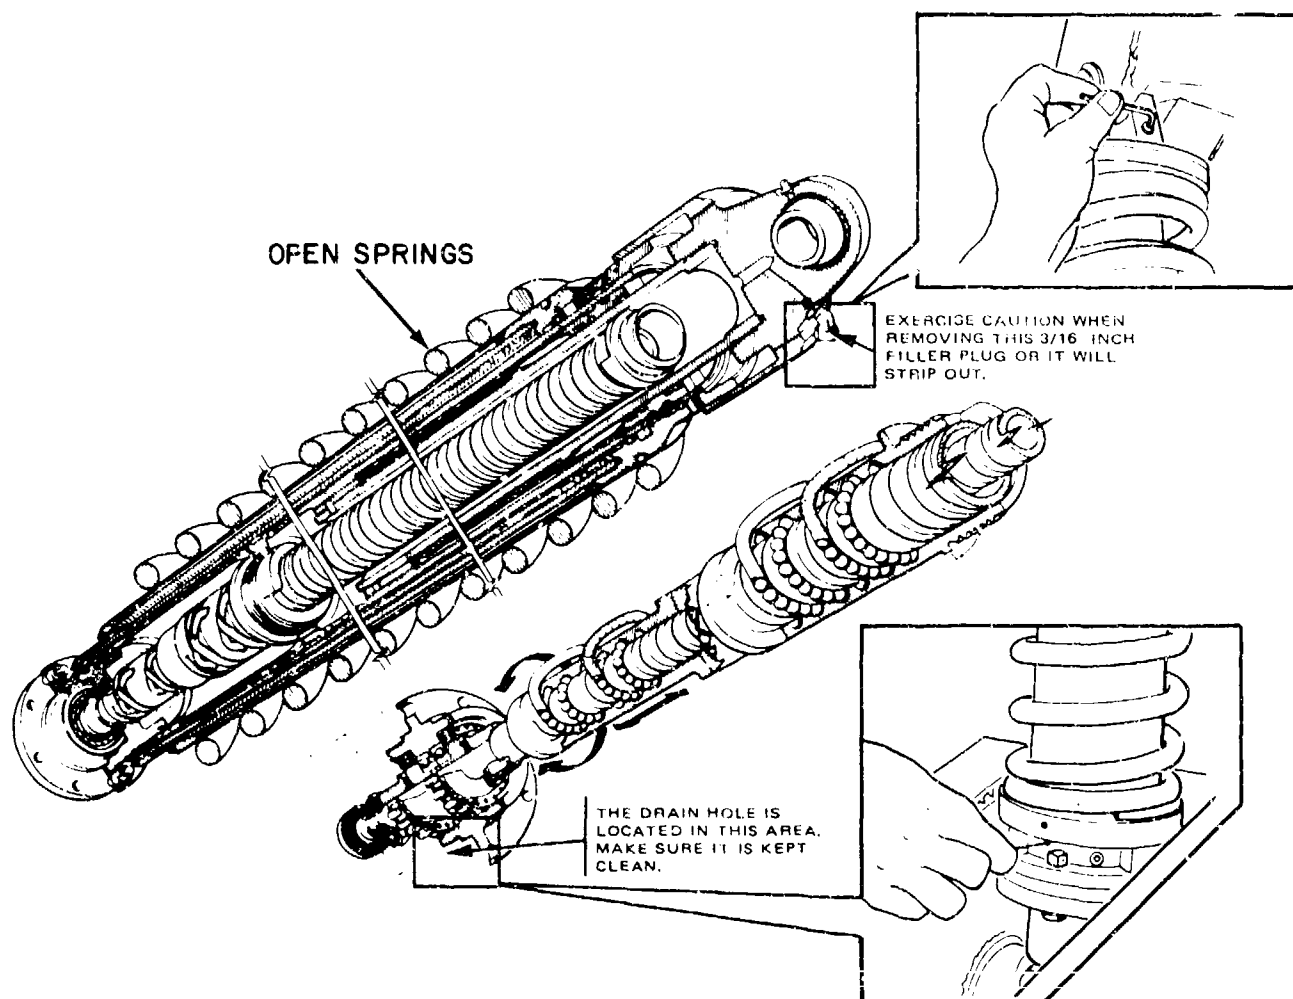

Figure 4-16. M102 open spring pusher-type equilibrators.
*d. Maintenance.* There have been some reports from the field that units are experiencing problems with the equilibrators (fig 4-16). Indications are that the equilibrators lock or creep and thus fail to maintain the tube at the correct elevation.
(1) Little information on the cause of the equilibrator problem is currently available. Further information, through EIRs from the users, is needed; however, investigation into the problem area has been initiated. Two of the probable causes of the equilibrator problem are the lack of lubrication and the plugging of the drain holes. A drain hole is located in the lower housing on the underside of each equilibrator. The drain holes are being enlarged to reduce the possibility of plugging, but you must insure that the holes remain clear. The drain holes can be cleaned with a thin wire. Then, the equilibrators can be cleaned and lubricated with general purpose lubricating oil. The M102 lubrication order, LO 3-1015-234-10, 1 June 1978, requires that organizational maintenance personnel accomplish this lubrication on a monthly basis; however, the